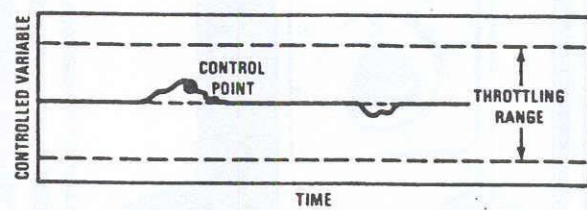

Figure 10-4: Adding automatic reset to proportional control minimizes any offset or control point droop.
4. Proportional control action with automatic reset (Figure 10-4) operates as a standard proportional control system until an offset condition occurs. If an offset exists, the automatic reset will initiate action to shift the control point toward the set-point. Proportional control action with automatic reset combines the stability and relatively wide throttling range of proportional control action with the non-variable control point of floating control action. Proportional control with automatic reset should be used when controlled variable changes are relatively slow and when the offset resulting from proportional control action alone would be outside of desired limits.